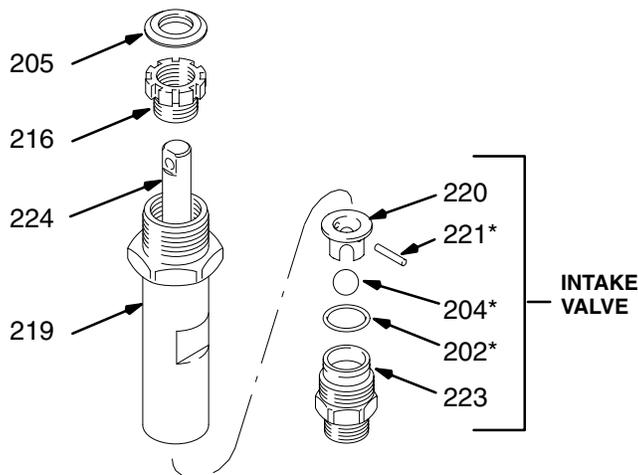

Fig. 23 04230
Displacement Pump Repair (Fig. 23, 24, 25 and 26)
2. Unscrew the intake valve (223) from the cylinder (219). Remove all parts. See Fig. 23.
4. Remove the packing nut (216) and plug (205). See Fig. 23.
5. Use a plastic mallet to tap the piston rod (224) down, then pull the rod out through the bottom of the cylinder (219). See Fig. 23.